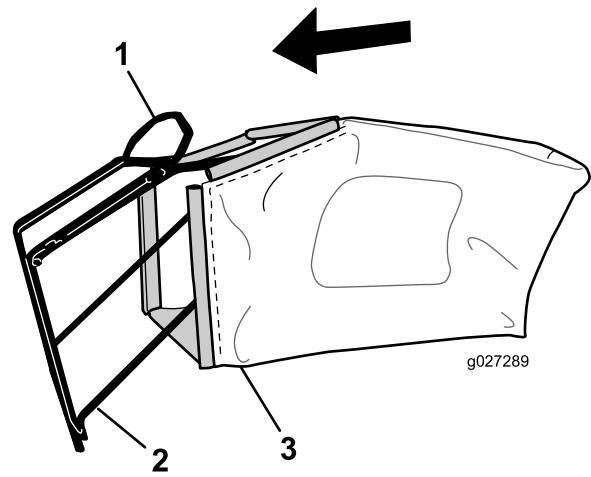

Figure 9
1. Slip the grass bag over the frame as shown in Figure 9.
Note: Do not slip the bag over the handle (Figure 9).